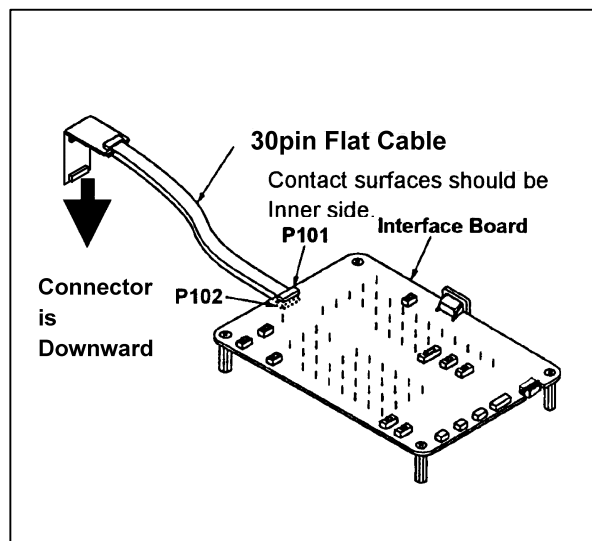

Fig.E4
2. Connect the 2 pcs. of 30 pin flat cables between P101/P102 on the Measuring Board, and 2 connectors on the Connector Board. Make sure that the contact surface of 2 pcs. of 30 pin Flat Cables are inner side and direction of the Connection Board is as shown in Figures E4. Then connect the Extension board.